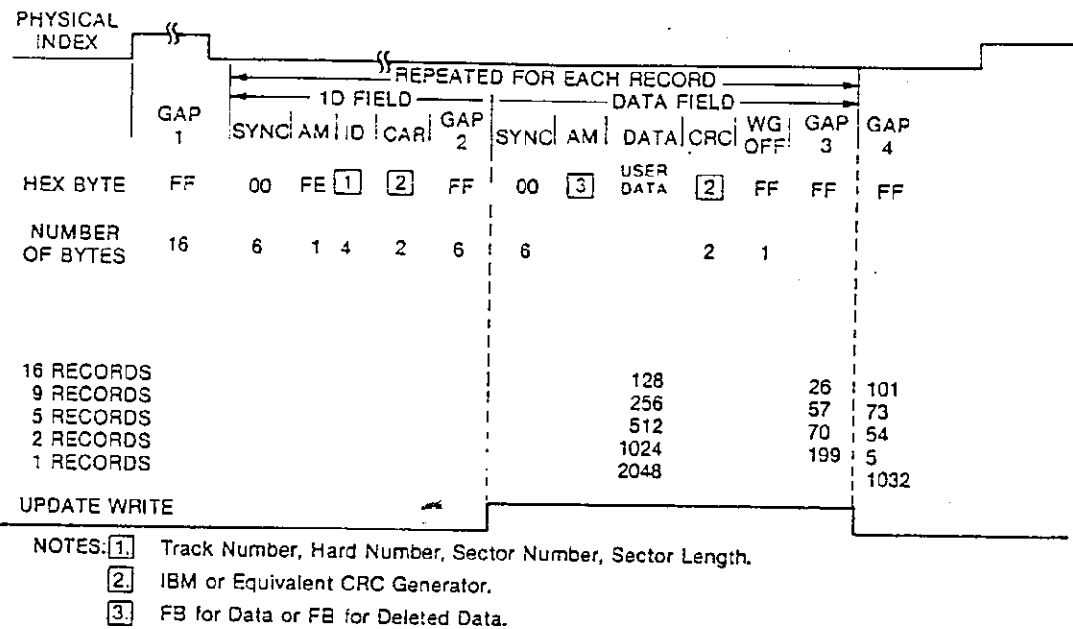
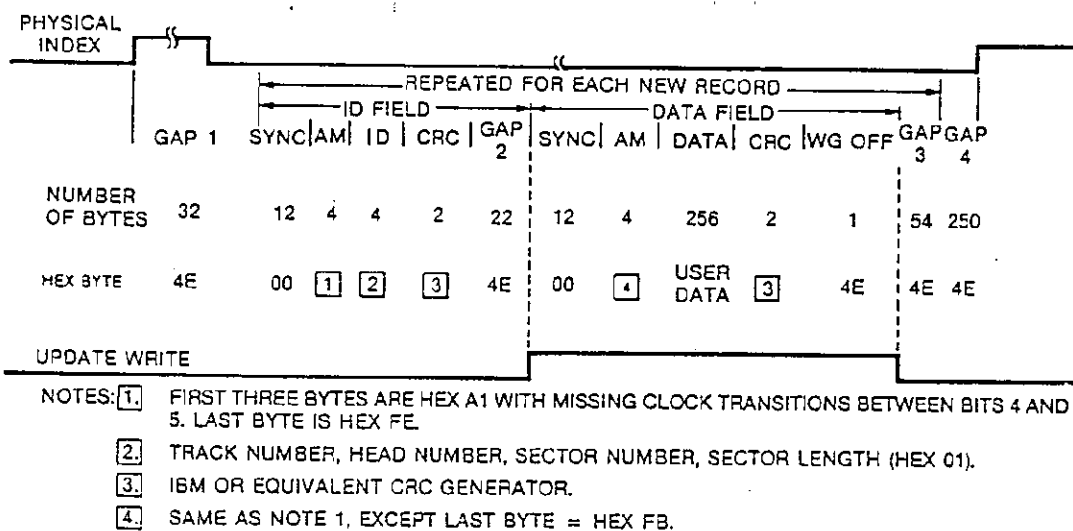

FIGURE 6-3. RECOMMENDED FM SOFT SECTOR SINGLE DENSITY (EVEN BOUNDARIES)
FIGURE 6-4. MFM RECOMMENDED IBM TYPE FORMAT, 256 BYTES/16 RECORDS PER TRACK
In this format, the using system may record one long record or several smaller records. Each track is started by a physical index pulse and then each record is preceded by a unique recorded identifier. This type of recording is called soft sectoring. Figure 6.3 illustrates the recommended single-density (FM) formats. Figure 6-4 shows the recommended double-density (MFM) formats.